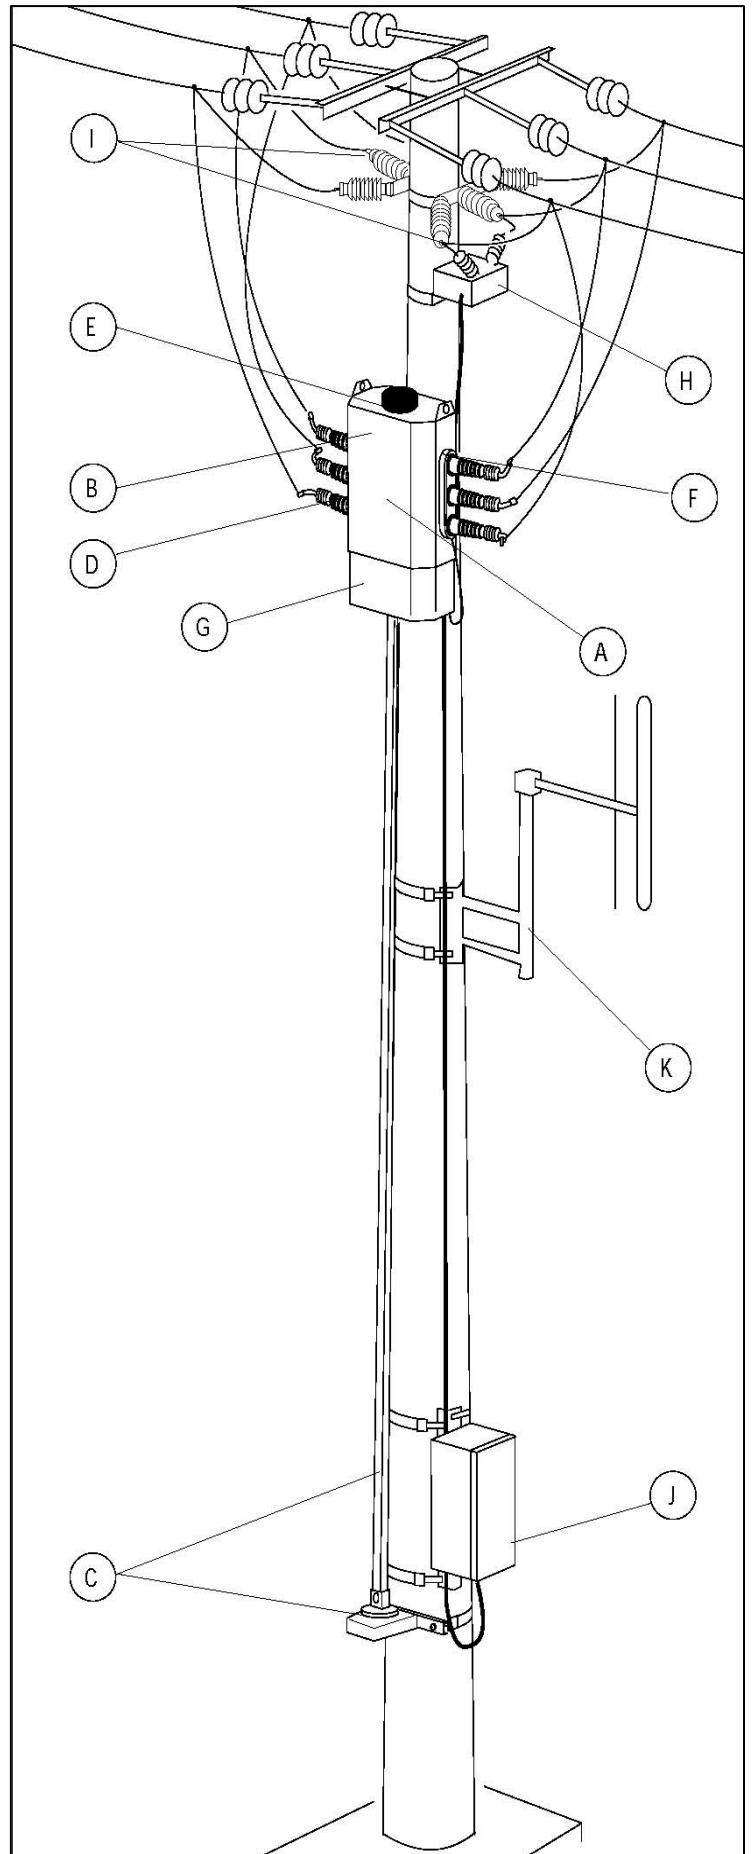

fig. 1
- either on the pole, above the switch (fig. 1, page 4 item (H)).